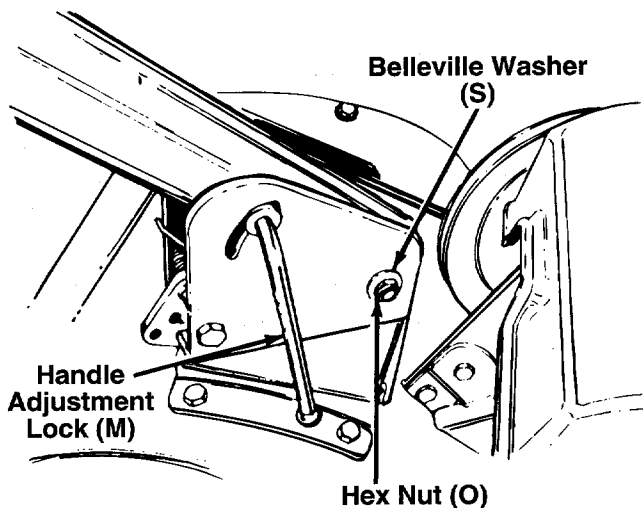

FIGURE 5.
12. Secure bottom of handle by placing belleville washer (S) (cupped side against the pivot bracket) and hex nut (O) on hex bolt (N). Do not tighten at this time. See figure 5.
13. Insert handle adjustment lock (M) through handle pivot bracket and handle assembly. See figure 5. Thread end of handle adjustment crank into shoulder nut.